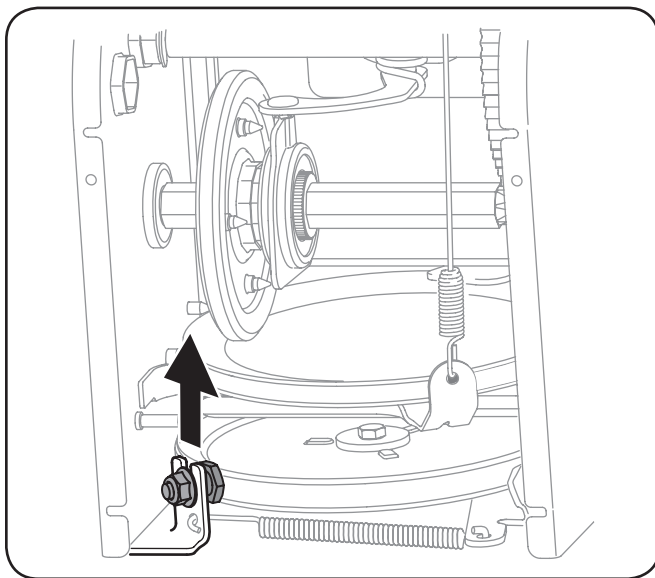

Figure 7-5
7. Loosen and remove the shoulder bolt which acts as a belt keeper. See Figure 7-5.